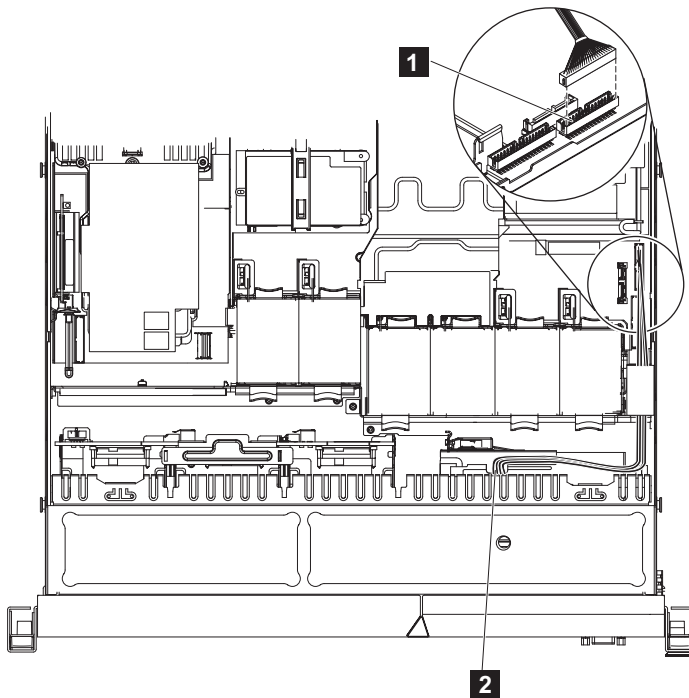

Figure 226. Disconnecting the SAN Volume Controller 2145-CF8 operator-information panel cable
3. Disconnect the cable from the connector above the Video/USB cable connector on the right side of the node, as shown in Figure 226.